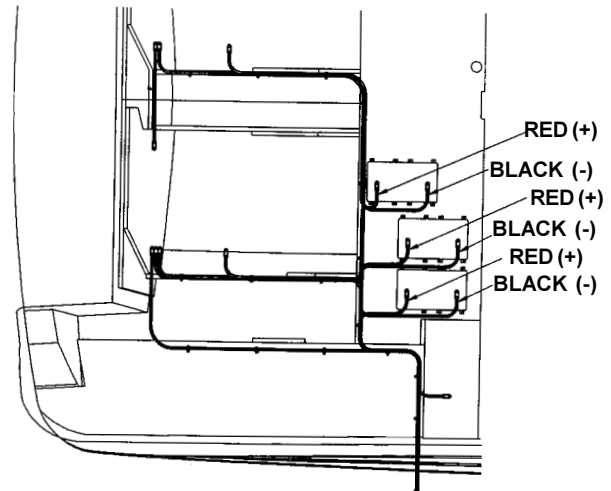

Figure H1: Triple Battery System
1. Connect each of the red (positive) battery cables leading from the battery selector switch to the positive (+) terminal on each of the three batteries. Refer to Figure H1.